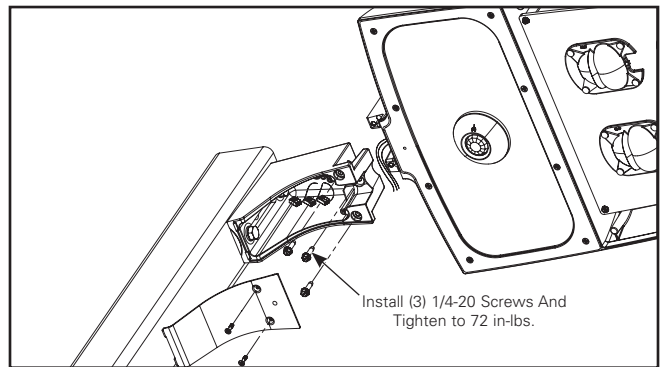

Figure 3.
3. Fold fixture wire leads tightly towards fixture door when sliding fixture on to mounting arm. Install the (3) 1/4-20 x 1" screws and tighten to 6 ft-lbs. Tighten the center screw first as shown in (Figure 3).
**Note:** Ensure the luminaire supply leads do not get pinched between cover and mounting arm as shown in (Figure 3 & 5).